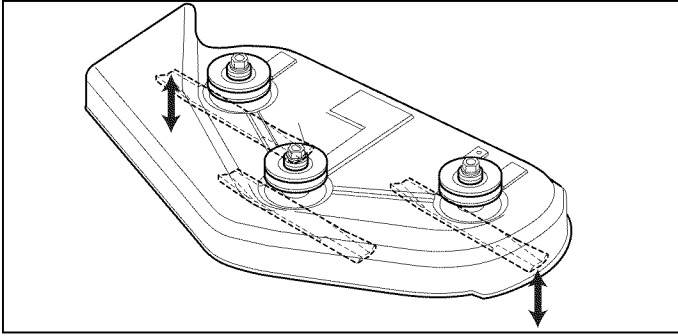

Figure 27. Orient Blades Side-to-Side
3. Place the mower cutting height lever in the fourth adjustment notch from the bottom. Arrange the outside mower blades so that they are pointing from side-to-side (Figure 27).
4. Measure the distance between the outside tips of each blade and the ground (Figures 27 & 28). The measurement should be 3" (7,6 cm), +/-1/8" (3mm). If there is more than 1/8" (3mm) difference between the measurements on each side, proceed to step 5. If the difference is 1/8" (3mm) or less, proceed to step 6.